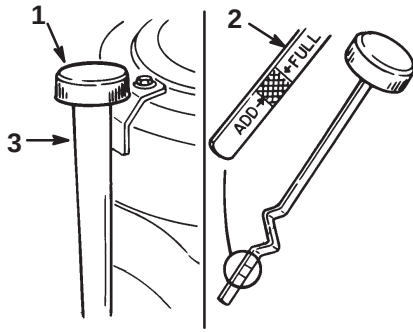

Figure 20
3. Clean around the oil dipstick (Fig. 20) so dirt cannot fall into the filler hole and damage the engine.
4. Unscrew the oil dipstick and wipe the metal end clean (Fig. 20).
5. Slide the oil dipstick fully into the filler tube, do not thread onto tube (Fig. 20). Pull the dipstick out and look at the metal end. If oil level is low, slowly pour only enough oil into the filler tube to raise the level to the **full** mark.
7. Slowly pour approximately 80% of the specified amount of oil into the filler tube (Fig. 20). Now check the oil level; refer to Checking Oil Level, page 22. Slowly add additional oil to bring to **full** mark on dipstick.